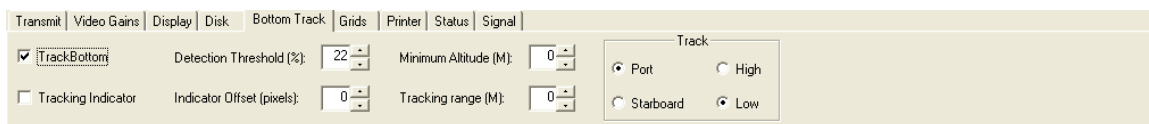

Figure 3-10: Lower Control Panel, Bottom Track Tab—DISCOVER 200-C Dual Frequency Side Scan
4. Click the Bottom Track tab. This tab is shown in **FIGURE 3-10**.